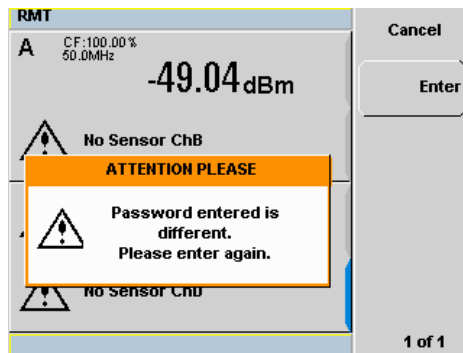

Figure 3-51 Warning message
- 7 A warning message pop-up will be displayed if the password entered is different from the initial password (see Figure 3-51). This warning will appear for two seconds before the enter password pop-up is displayed again.